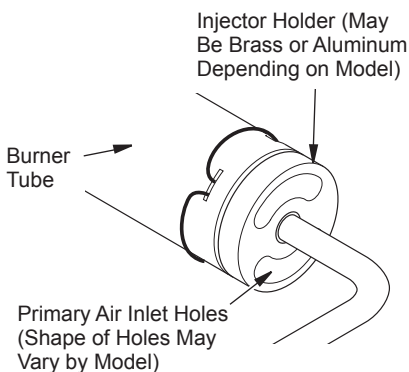

Figure 43 - Injector Holder On Outlet Burner Tube
2. Inspect burner, pilot, and primary air inlet holes on injector holder for dust and dirt (see Figure 43).